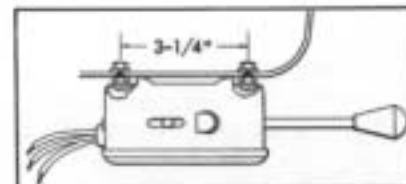

Figure 20
controller may be mounted on the under side of the instrument panel in a convenient location. To mount in this manner it is necessary to drill two (2) $\frac{3}{16}$ " holes $3\frac{1}{4}$ " apart, and use two (2) $\frac{3}{16}$ " screws and lock nuts to complete the mounting. See Figure 20.